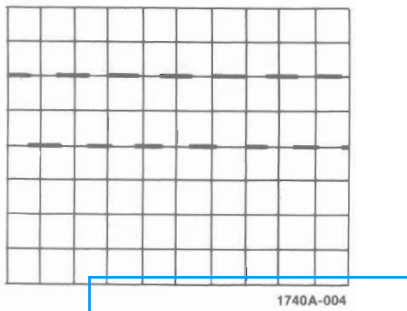

Figure 3-3. Normal Display
b. Adjust horizontal POSITION **25** to place waveform portion to be magnified on CRT center graticule (see figure 3-3).